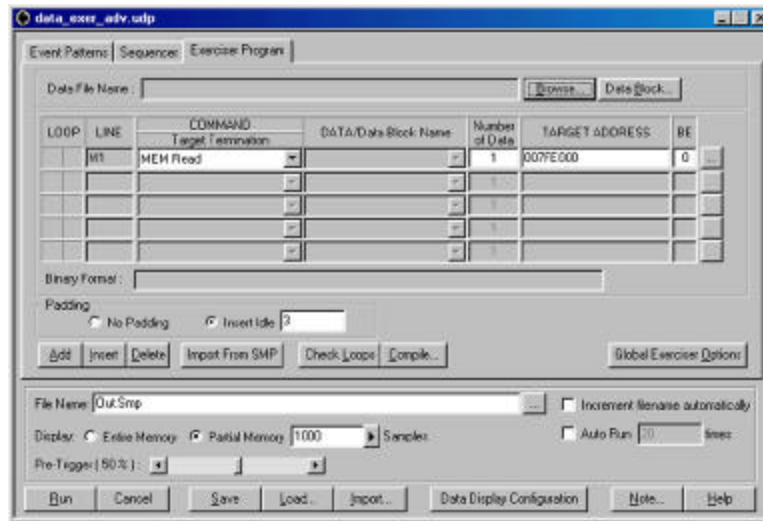

Figure 48 Custom Project Dialog Box/Exerciser Program
1. Click the Black button on the Main Menu bar to open the Custom Project dialog box shown in Figure 48.
Make sure that the **Exerciser Program** Tab is selected on the Custom Project Dialog box as shown in Figure 48. To program the Exerciser: